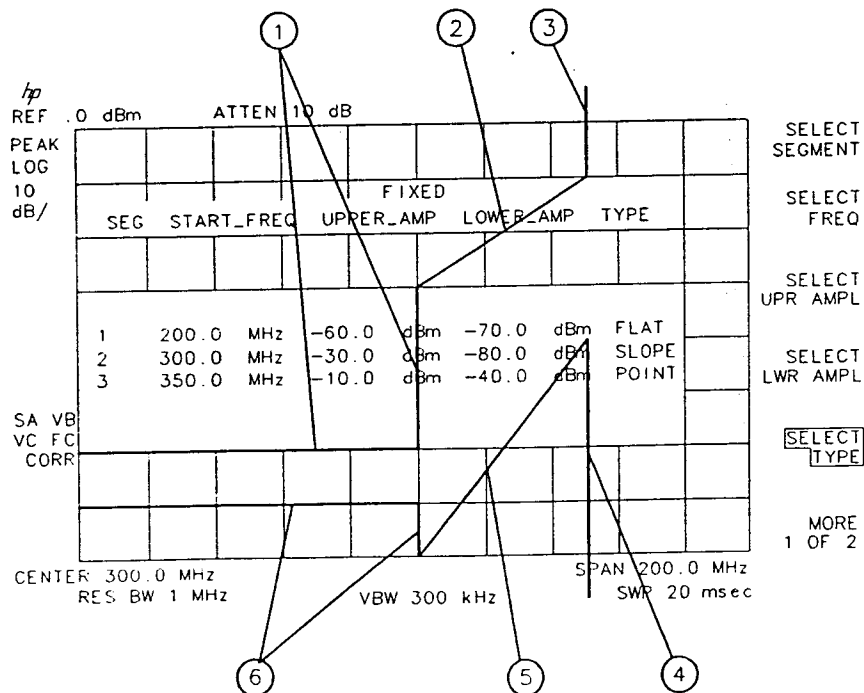

Figure 1-11. Segment Types
- Flat draws a zero-slope line between the coordinate point of the current segment and the coordinate point of the next segment, producing limit-line values equal in amplitude for all frequencies between the two points. If the amplitude values of the two segments differ, the limit-line will “step” to the value of the second segment. See Figure 1-11.
Figure 1-11 demonstrates the different segment types.